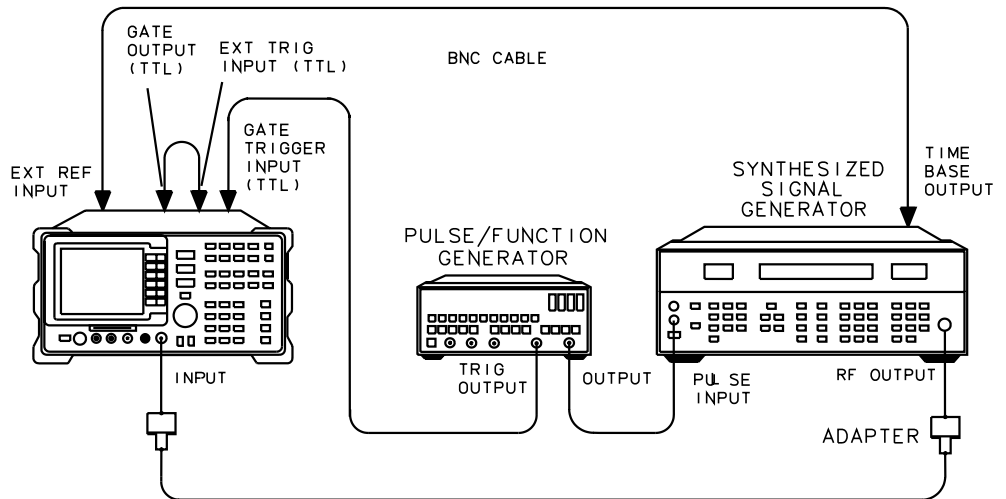

Figure 72 Phase Error Test Setup
- 2 Connect the equipment as shown in Figure 72.